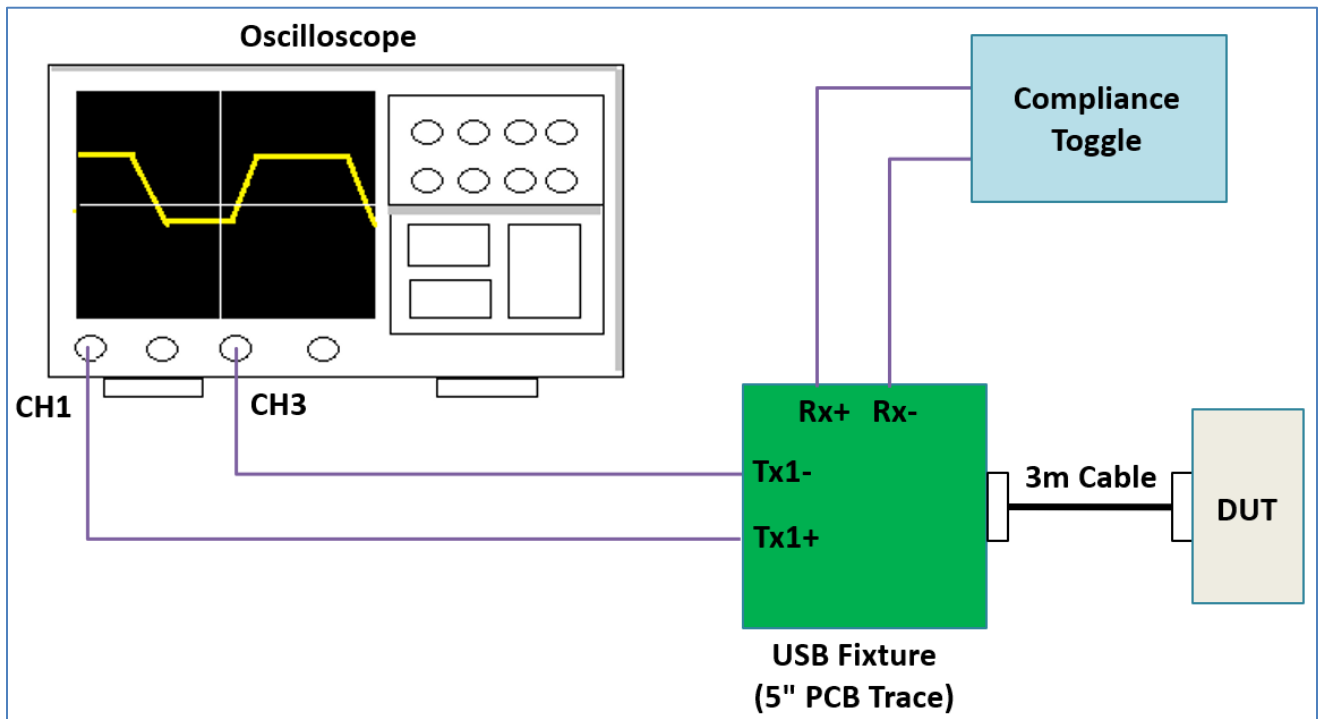

Figure 3.USB 3.2 Gen 1 Std-A (Host/Device) Test with Compliance Toggle Connection Diagram
5. If using a compliance toggle, connect the toggle to Rx+ and Rx- on the USB Fixture as shown in Figure 3 below.